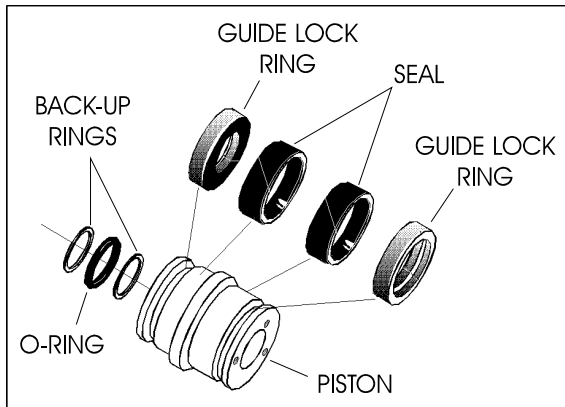

Figure 5-36. Piston Seal Kit Installation
- Place new guide locks and seals in applicable outside diameter grooves of cylinder piston. (See Figure 5-36. Piston Seal Kit Installation)